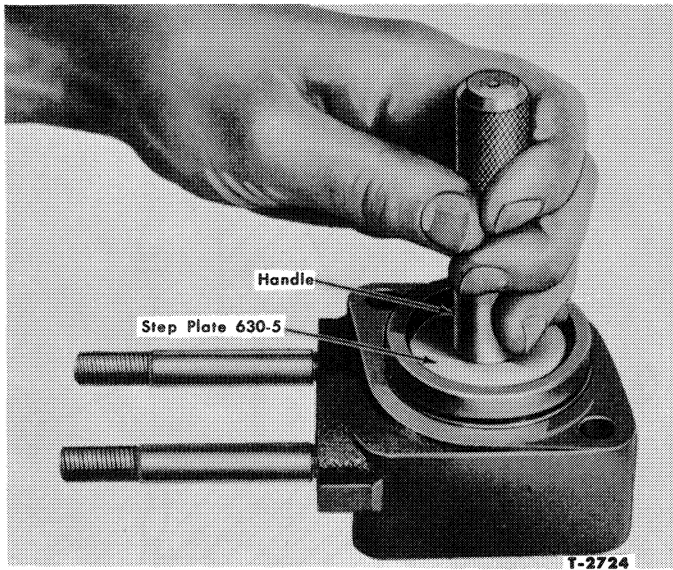

Figure 30—Installing Seal in Body
2. Install the oil seal in the body with a driver and Step-Plate 630-5, Figure 30. Make certain that the small vent holes in the seal are toward the rear of the pump.
2. Install the seal in the body with a step plate, Figure 30, that contacts the outside diameter of the seal. Make certain that the vent holes in the seal are facing out.